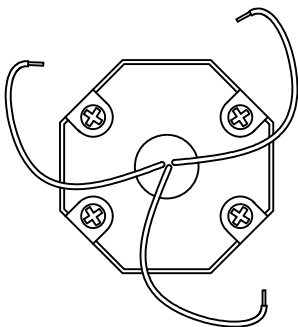
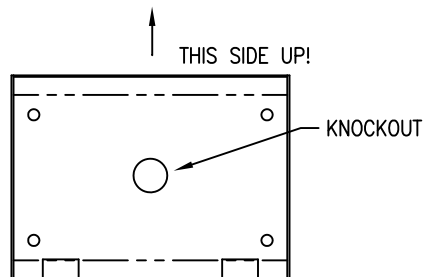

FIGURE. 2
FIGURE. 2A
3. MOUNT EITHER AN OCTOGONAL OR SQUARE JUNCTION BOX (NOT SUPPLIED) TO WALL (RECESSED OR SURFACE). SEE FIGURE 2. NOTE: IF USING OPTIONAL SURFACE WIRING BOX, MOUNT TO WALL NOTCH-SIDE DOWN, THEN PROCEED TO STEP8. SEE FIGURE 2A.